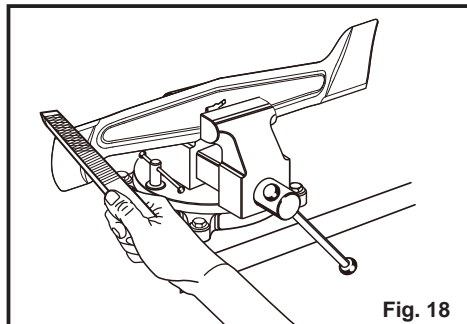

Fig. 18
- Using a fine-tooth file or sharpening stone, sharpen cutting edges on both ends of the blade, removing equal amounts of material from both ends (Fig. 18).